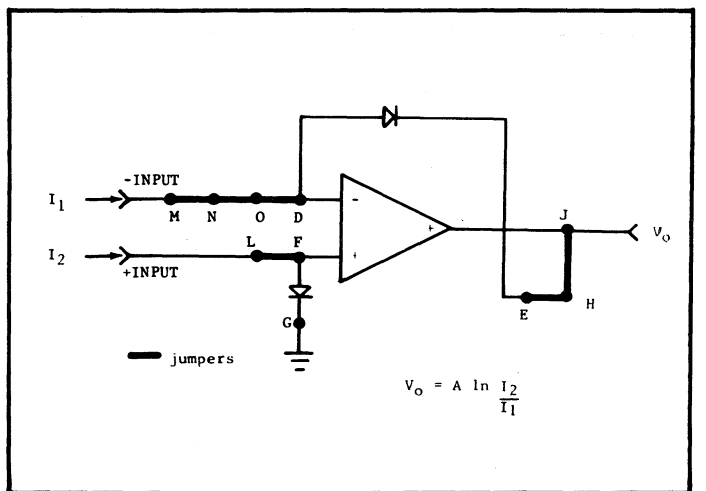

FIGURE 11. Logarithmic Current Amplifier
6. Differential Logarithmic Current Amplifier. In this mode two diodes are connected as shown in Figure 11. The output voltage is proportional to the difference of the logarithms of I_1 and I_2 where $V_o = A (\ln I_2 - \ln I_1) = A \ln [I_2/I_1]$.